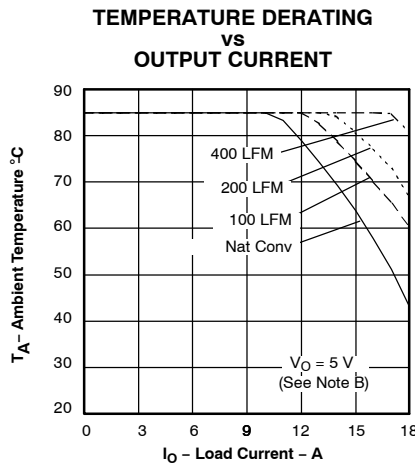
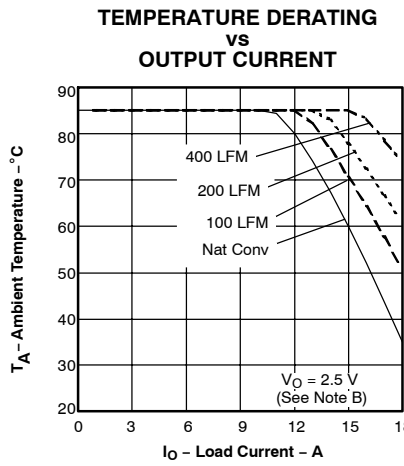
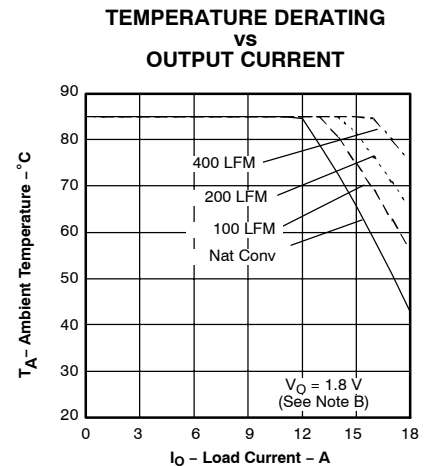

Figure 4.
Figure 5.
Figure 6.
- (2) The temperature derating curves represent the conditions at which internal components are at or below the manufacturer's maximum operating temperatures. Derating limits apply to modules soldered directly to a 4 inch x 4 inch double-sided PCB with 1oz. copper. For surface mount products (AS and AZ suffix), multiple vias (plated through holes) are required to add thermal paths around the power pins. Please refer to the mechanical specification for more information. Applies to Figure 4, Figure 5 and Figure 6.